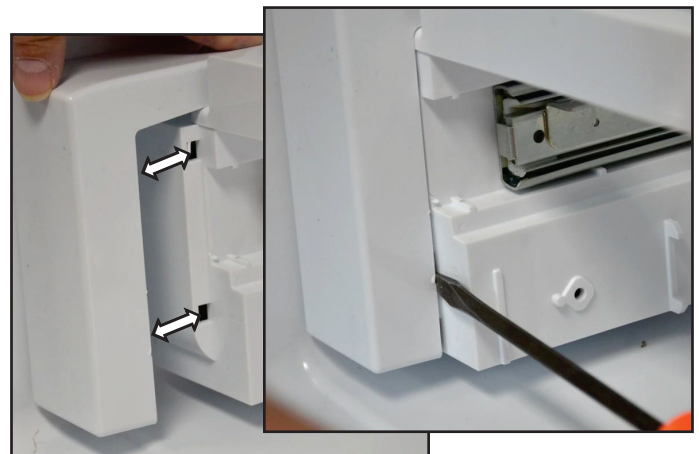

FIGURE 17
4. Remove the rail caps by inserting a wide straight blade between the cap and the rail approximately 1" from the bottom of the cap and twist. Repeat at the top of the cap if necessary. See *Figure 17*.